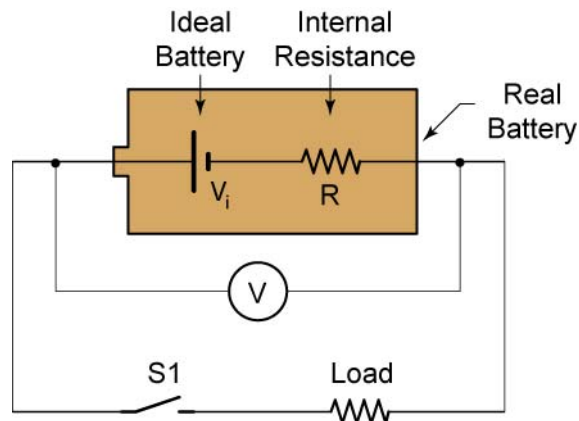

Figure 7: Representing Internal Resistance in a Battery
- Internal resistance: If you use a voltmeter to measure the open circuit voltage of an AA size battery, you will find that the voltage is about 1.5 V. But if you are using a circuit to draw a large current from the battery, you will find that the voltage across the battery is less than 1.5 V. This is because the battery itself has an intrinsic resistance called internal resistance. One way to think of internal resistance is to imagine a real battery as being made up of an ideal battery of voltage V_i , connecting in series with a resistor R which represents the internal resistance (see Figure 7). When no current is drawn from the battery, the voltage drop across the battery is of course V_i , $V = V_i$. But when a current I is drawn from the battery, there is a voltage drop $I \times R$ across the resistor, so the voltage V across the battery is decreased to: